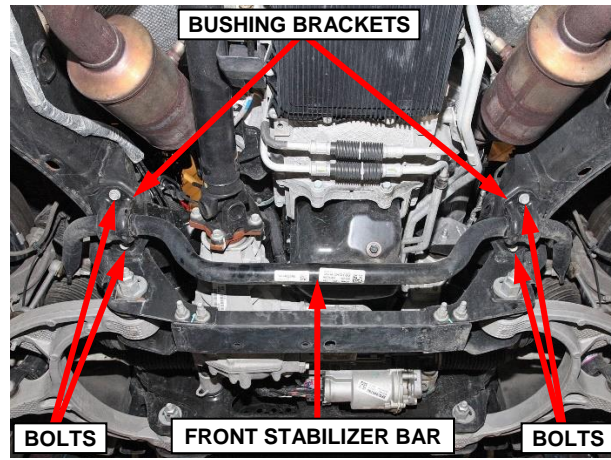

Figure 9 – Front Stabilizer Bar
- Remove the four bolts (two per side) securing the front stabilizer bar bushing brackets. Lower the stabilizer bar with bushings and brackets allowing it to be supported by the stabilizer links (Figure 9).
20. Raise the stabilizer bar into position then install the four bolts (two per side) securing the front stabilizer bar bushing brackets (Figure 9). Tighten the bolts to 45 N·m (33 ft. lbs.).